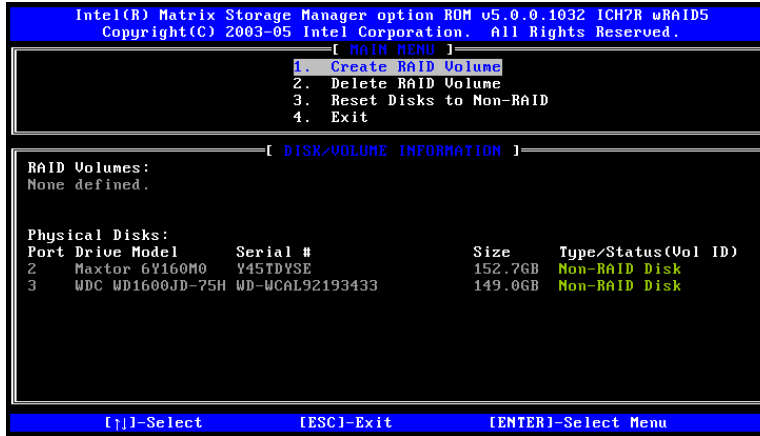

Figure D-1: Matrix Storage Manager Main Menu
**Step 1:** Select “Create RAID Volume.” Use the arrow keys to highlight **Create RAID Volume** and press **ENTER**. See Figure D-1.